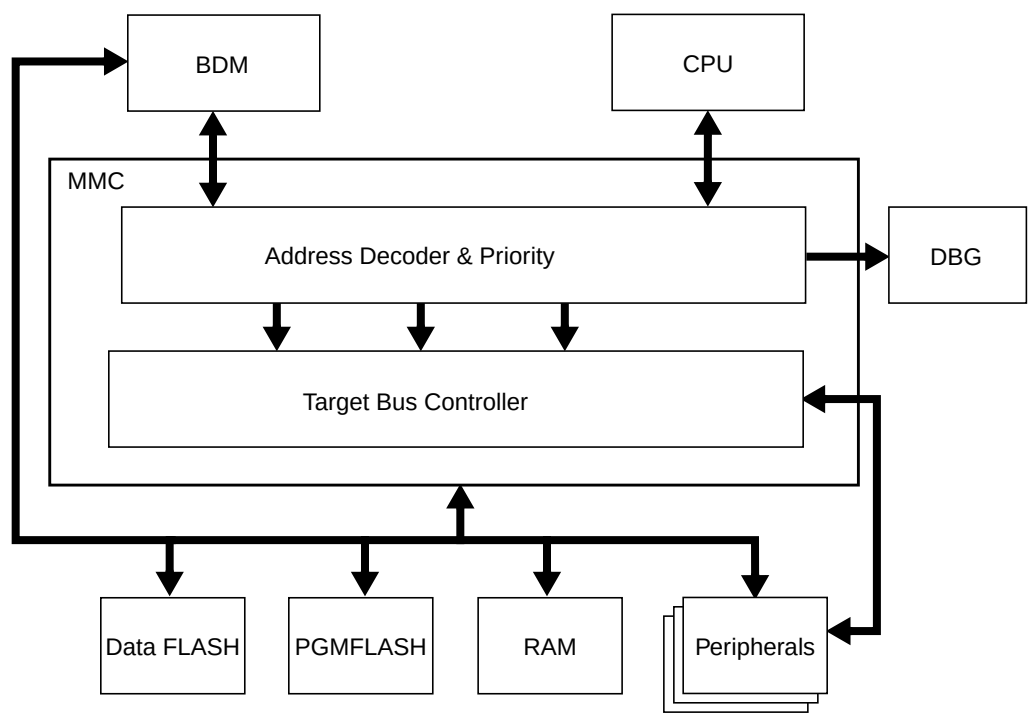

Figure 3-1. MMC Block Diagram
This section describes the functionality of the module mapping control (MMC) sub-block of the S12X platform. The block diagram of the MMC is shown in Figure 3-1.
- Simultaneous accesses to different resources1 (internal, and peripherals) (see Figure 3-1 )
Figure 3-1 shows a block diagram of the MMC.